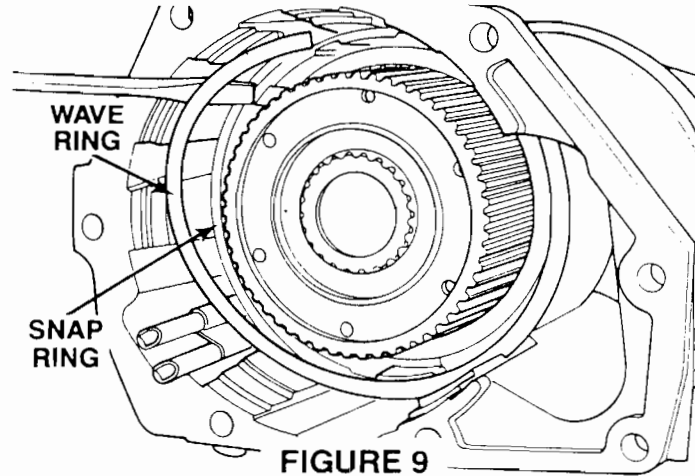

FIGURE 9
3. Next, take out the wave ring. This special ring acts as a cushion to absorb the shock when the overdrive clutch engages (Figure 9).